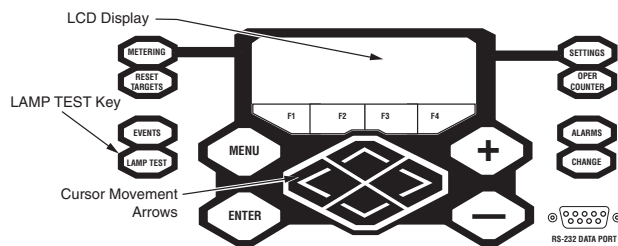

Figure 38. Lamp Test button, LCD display, and cursor movement arrows
1. Verify operating status of all indicator lights by pressing and holding the LAMP TEST key for two seconds on the programming panel (**Figure 38**).
Note: Scroll through the LCD display messages by pressing the ▲ and ▼ cursor movement arrows underneath the LCD display on the programming panel (**Figure 38**).